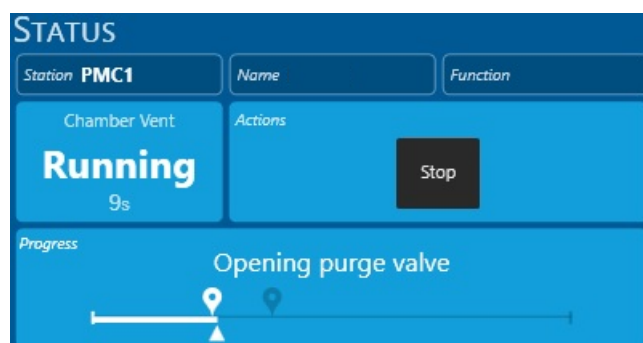

Figure 6-5 Progress panel
- The vent sequence starts and the Status panel displays the progress of the operation (see Figure 6-5).